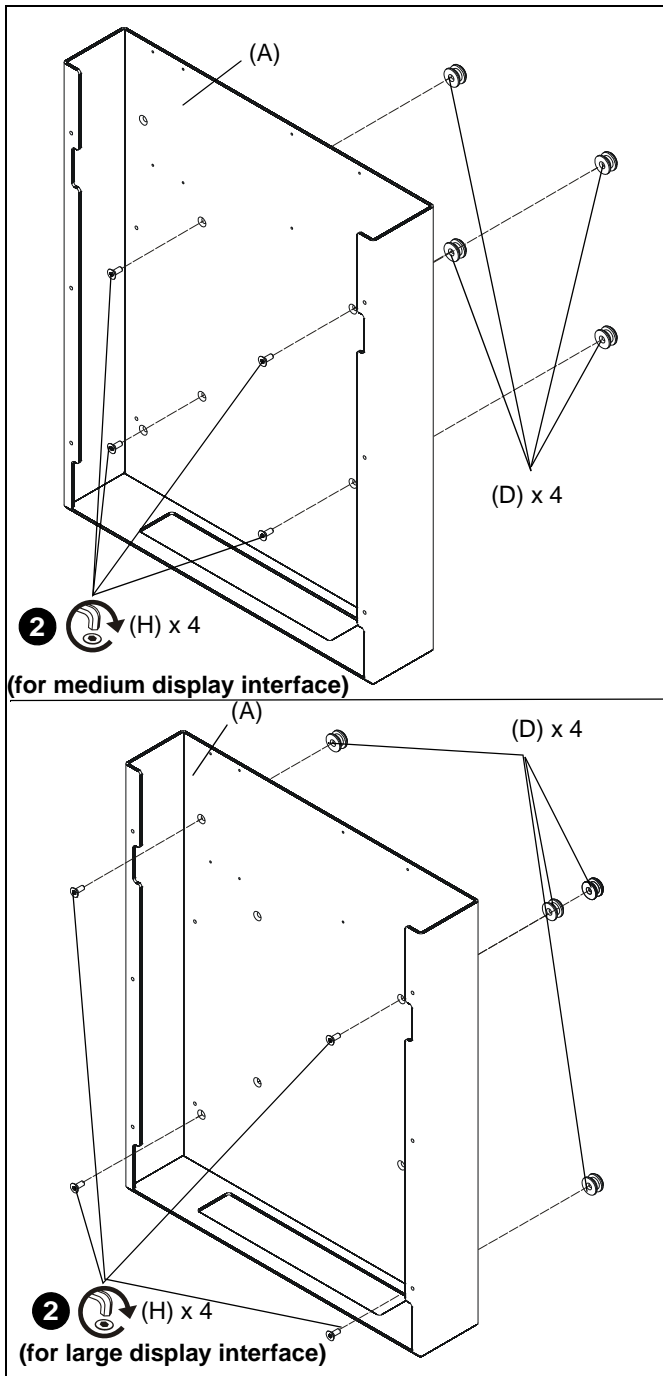

Figure 1
1. Install four #10-24 x 1/2" flat-head cap screws (H) through holes on CPU Box (A) and into mounting buttons (D). (See Figure 1)
2. Use 1/8" hex key (P) to tighten mounting buttons to CPU box. (See Figure 1)